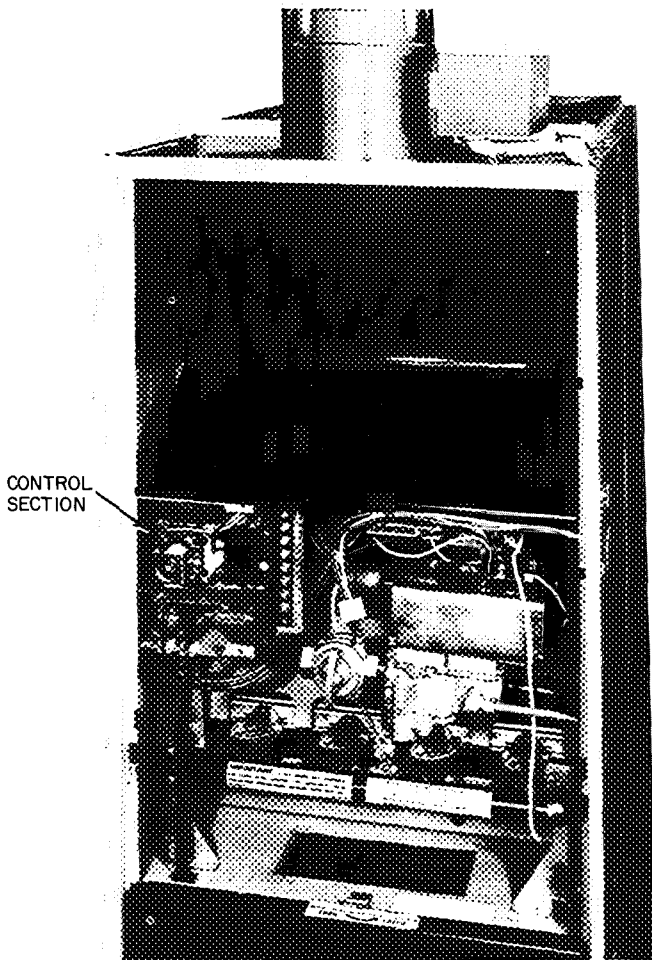

Fig. 2 – Vent Damper Positioned on Furnace
- Position vent damper on furnace as shown in Fig. 2. See arrow on damper rating plate for direction of flue gas flow.